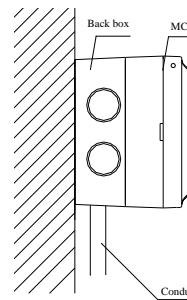
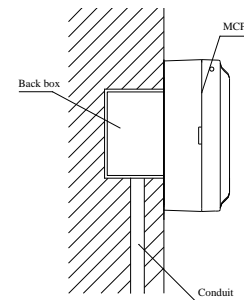
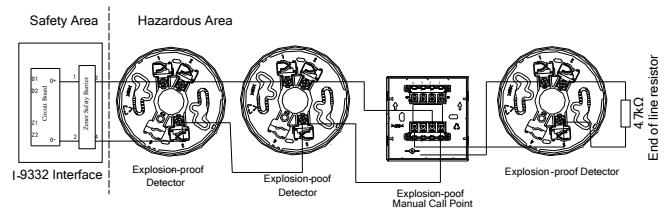

Fig. 2
Fig. 3
Fig. 4
- (1) Before installation, check if the enclosure is in good condition and labels are complete.
- (2) Remove the MCP first, thread cables through the wiring hole on the base and connect to corresponding terminals, and then put back the MCP. Mounting-hole distance is 60mm (Fig. 4). The conduit can be surface mounted or flush mounted as shown in Fig. 2 and Fig. 3.
When this MCP is connected with I-9332 Interface, explosion-proof photoelectric smoke detector, explosion-proof heat detector, a $4.7\text{k}\Omega$ end of line resistor should be connected at the end of the loop. System connection is shown in Fig. 4.